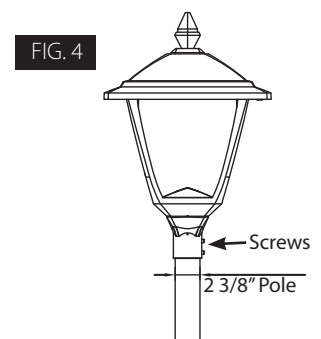

FIG. 4
3. Install the Fixture on the **Pole** and tighten (2) **Screws** (*provided*) as shown in Fig. 4.